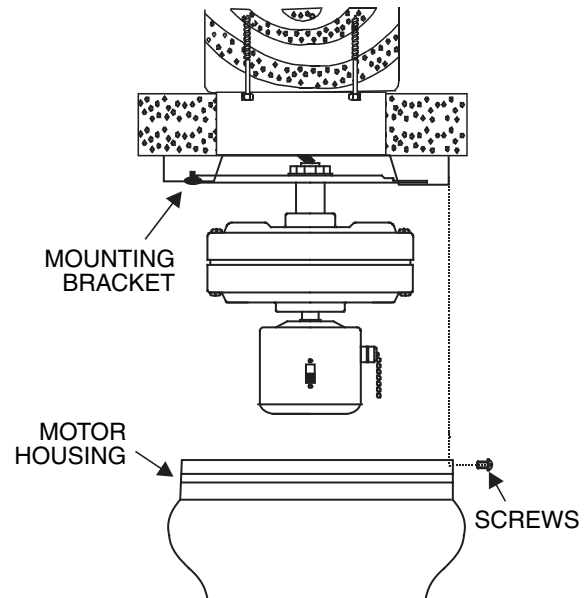

FIGURE 10
2. Carefully lift the motor housing onto the mounting bracket, properly align the holes and tighten the motor housing with the 4 screws supplied. (Fig. 10)